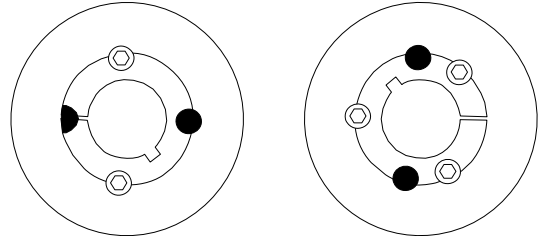

Figure 9.5.6-1 Taper Lock® screw positions
- a) Slacken, by several turns, all screws in the Taper Lock® bush. Remove one or two, according to the number of jacking holes (shown as ‘●’ in Figure 9.5.6-1).
- c) sparingly oil the thread and point of grub screws, or thread and under the head of cap screws; place the screws loosely in holes in the pulley, shown as ‘⊙’ in Figure 9.5.6-1;